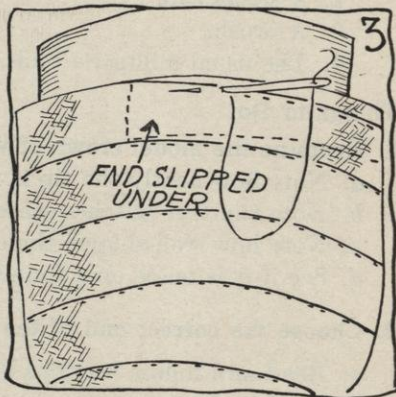

FIG. 3.
- When the very last row of the crown is reached, very gradually slip the end where you are working under the edge that is already sewed, so that the finished edges meet in a straight line (see Figure 3).